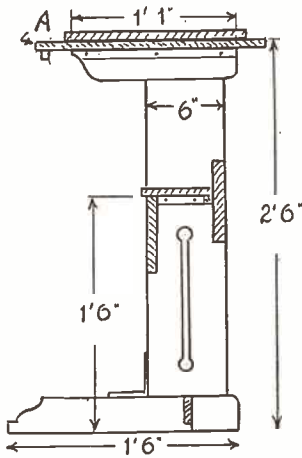
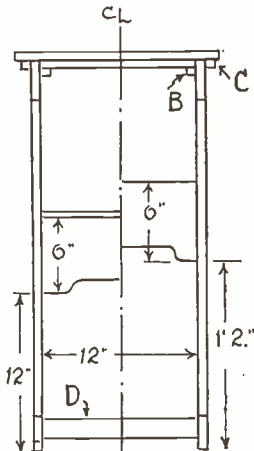
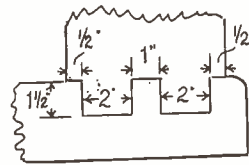

Fig. 1
Fig. 2
Fig. 3
A side vertical section is given in Fig. 1, and a combined front and rear view in Fig. 2, showing half of each. The sides of the table consist of vertical members, jointed to horizontal floor and top members. These are tenoned together, the tenons being measured off as at Fig. 3, and shouldered down to $\frac{3}{4}$ in. thickness. Note the uprights are spaced just 1in. from the ends of the floor members. Close-fitting and well-glued joints are necessary here. The cut-outs in the lower halves of the uprights,
These sides are now joined by the crossbars shown in Fig. 2. It will be noted here that the front crossbar is a little lower than the rear one, the greater height of the latter acting as a back to the shelf. The shelf can be cut from stout plywood or $\frac{3}{4}$ in. solid wood, as preferred. It is nailed to the top edge of the front crossbar and to wood fillets, screwed to the sides of the table and rear crossbar. Fig. 1 shows these details. At the bottom, a crossbar (D) is nailed across between the floor members. This bar is 2 $\frac{1}{2}$ ins. wide, and is fitted across $\frac{1}{2}$ in. above floor level, so that it stands
sunk before the fillets are fixed on, as once fixed, the boring would prove rather awkward. The top can now be cut. It should overlap the fillets and back and front of the top members by about $\frac{1}{2}$ in. Leave the actual screwing down of the top for the moment, and cut the draw-out extension. This is shown at (A) in Fig. 1.
As shown in the drawings the 'draw-out' is fitted directly beneath the table top, and runs on $\frac{3}{4}$ in. square fillets screwed beneath it to the sides of the table, as shown at (B) Fig. 2. As it is essential for this draw-out extension to slide evenly, the space between the